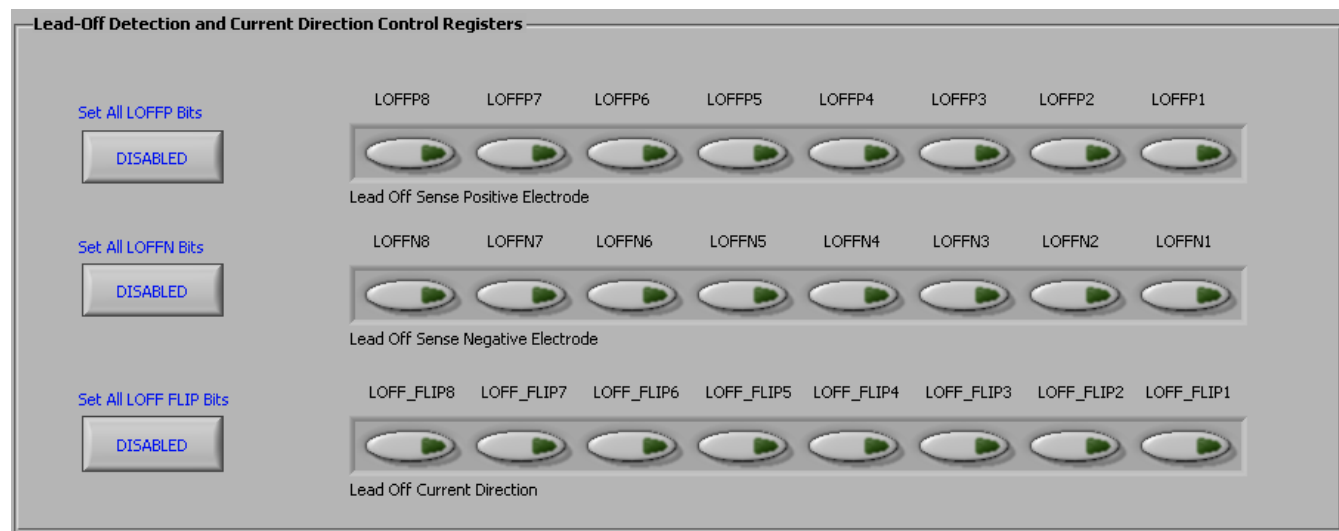

Figure 41. Setting the LOFF Register Bits
- Step 2. Choose the lead-off scheme by setting the respective bits in the LOFF register (in the LOFF control tab). Select the *DC Lead-Off Detect*, *6.25 nA*, *Current Source* scheme, and set the comparator threshold to 95%. Select the appropriate inputs for lead-off detection by clicking the bits of the LOFF_SENSP and LOFF_SENSN Registers. The LOFF tab should appear as shown in Figure 41.